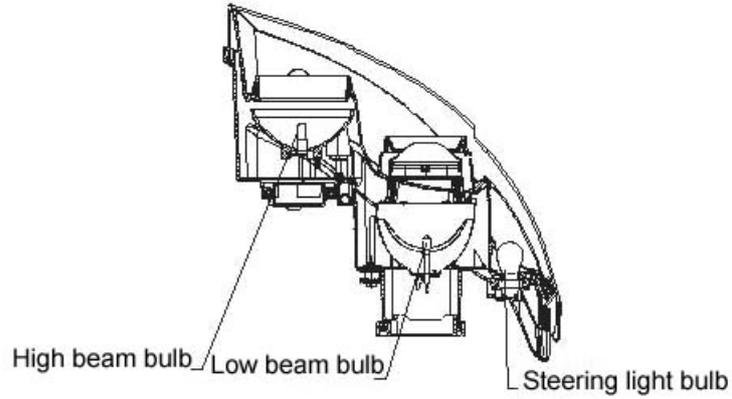

Fig. 4-60
1. Headlight assembly (Fig. 4-60)